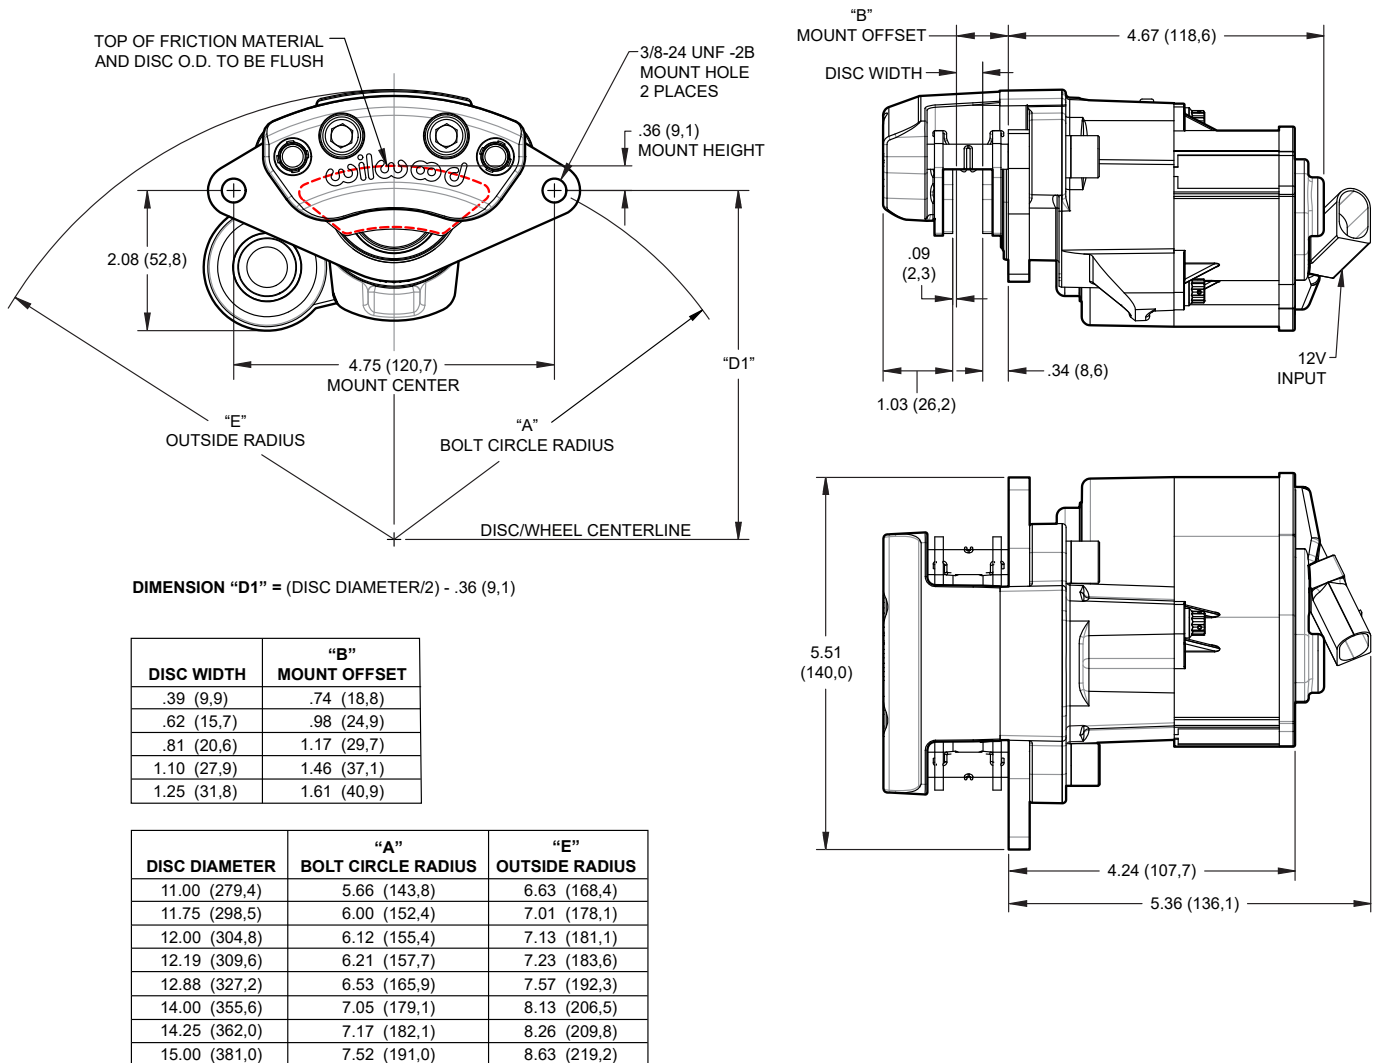

Figure 3. EPB Caliper
- **EPB CALIPER** - Mount the EPB calipers per the installation instructions included with your specific Wilwood brake kit, reference Figure 3. EPB calipers are left and right handed, however they can be used on either side of the vehicle to best suit your specific application.